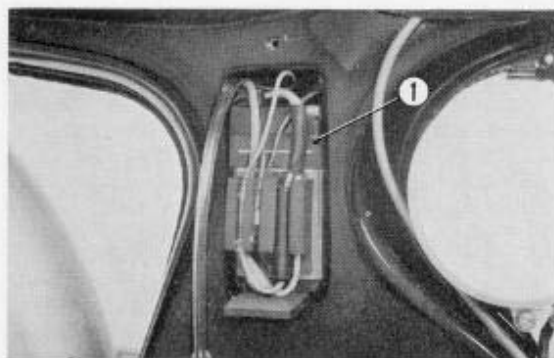

Fig. 5.35 Battery
- Remove the battery box, disconnect the battery cable from the battery, unfasten the battery band and then remove the battery. (Fig. 5.35)